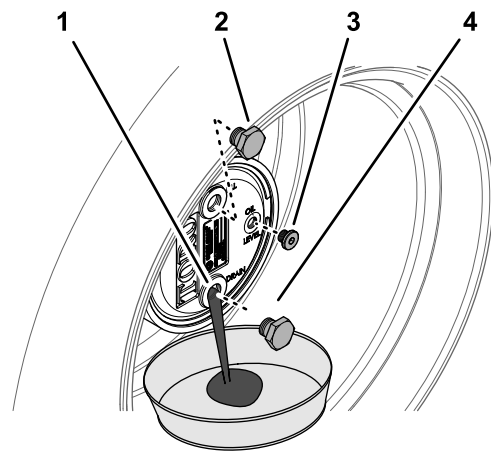

Figure 100
2. Remove the fill plug at the 12 o'clock position and the check plug at the 3 o'clock position (Figure 100).
3. Place a drain pan under the planetary hub, remove the drain plug at the 6 o'clock position, and allow the oil to fully drain (Figure 100).
5. Install the drain plug into the drain hole of the planetary housing (Figure 100).